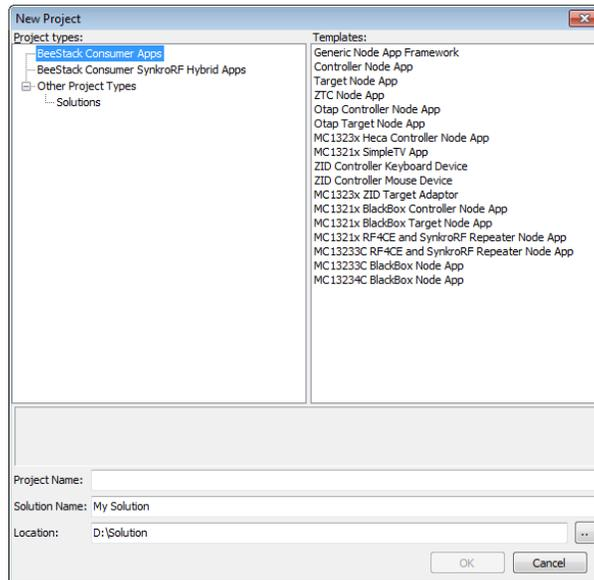

Figure 2-1. BeeKit New Project Window
The New Project window appears as shown in Figure 2-1.
2. This opens the Add Project window. (Figure 2-1)